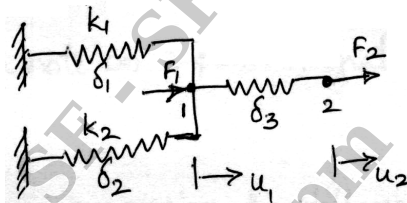

Fig Q2(a)
2. a. State the principle of minimum potential energy. Determine the displacements at nodes for the spring system shown in Fig Q2(a), Take : $K_1 = 50\text{N/mm}$; $K_2 = 60\text{N/mm}$; $K_3 = 70\text{N/mm}$